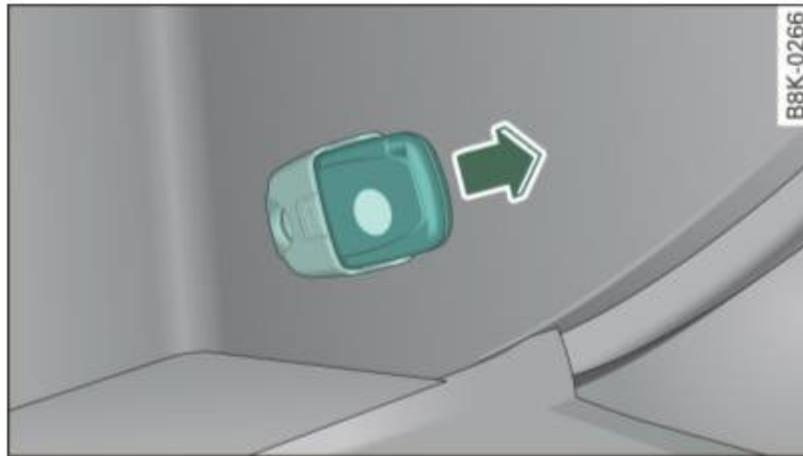

Fig. 32 Glove compartment: Adapter for emergency key
- Take the adapter for the emergency key out of the glove box ⇒ fig. 32.